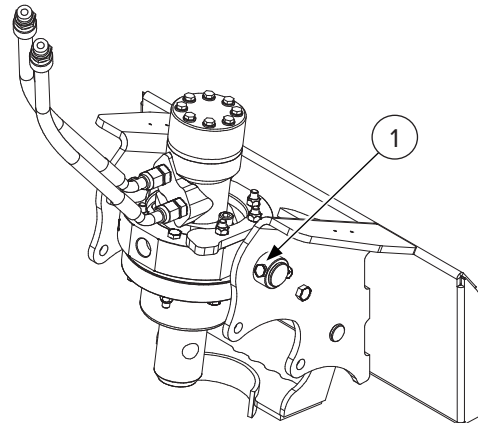

Figure 7
1. To remove the drive unit from the frame, remove the two (2) M10 x 60 mm long bolts and nylock nuts. See Figure 7, Item 1.